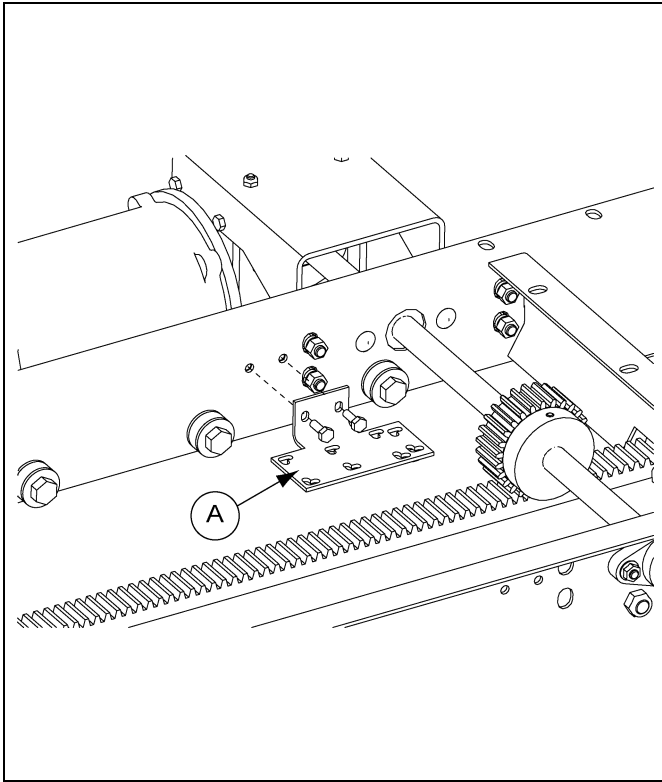
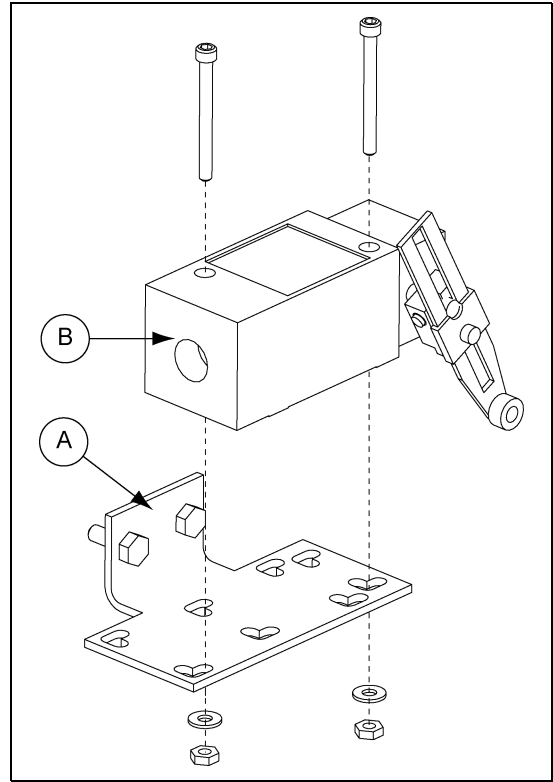

Figure 3E
Figure 3F
2. Attach the switch brackets to the inside of the gate as shown using hardware provided. (See Figure 3E.) Attach limit switch to the bracket as shown in Figure 3F.